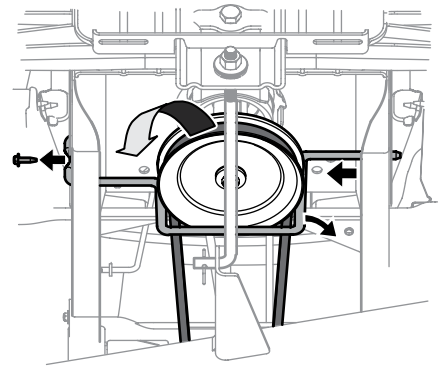

Figure 4-1
5. Remove the hex screw securing the engine pulley keeper rod to the frame. See Figure 4-1.